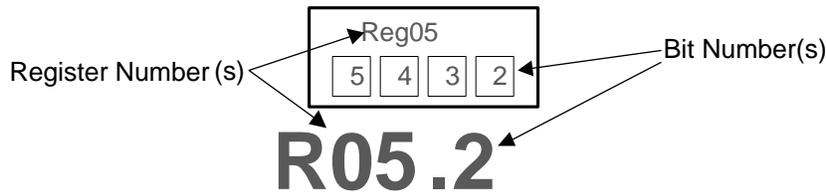

Figure 43. CDCM6208 Register Reference Format
Figure 43 shows the method that this document employs to refer to an individual register bit or a grouping of register bits. If a drawing or text references an individual bit the format is to specify the register number first and the bit number second. The CDCM6208 contains 21 registers that are 16 bits wide. The register addresses and the bit positions both begin with the number zero (0). A period separates the register address and bit address. The first bit in the register file is address 'R0.0' meaning that it is located in Register 0 and is bit position 0. The last bit in the register file is address R31.15 referring to the 16th bit of register address 31 (the 32nd register in the device